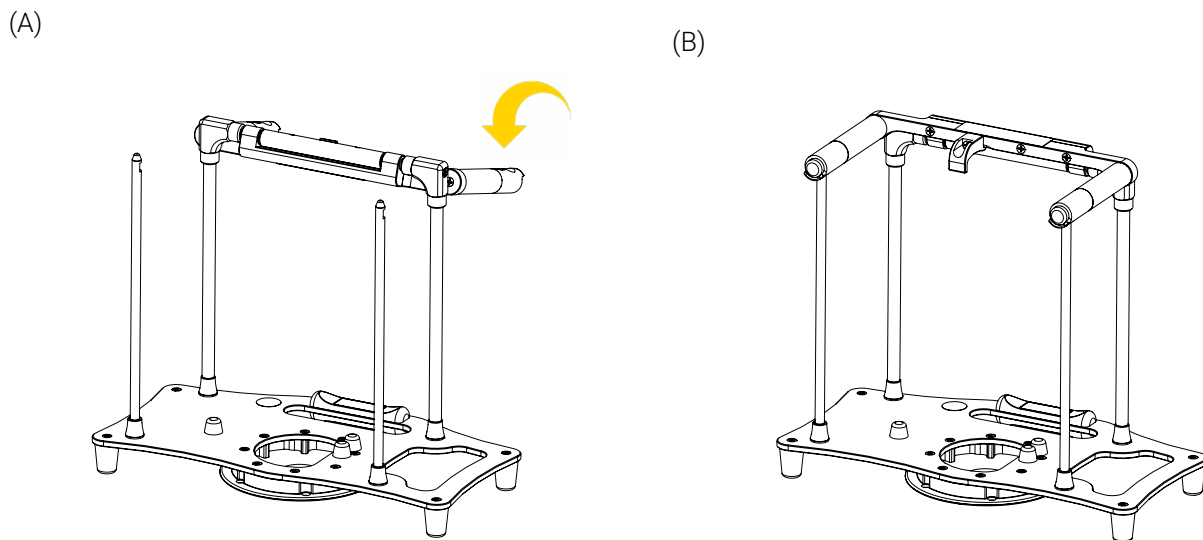

Figure 10: Closing and locking the support bracket
3. Flip the top of the support bracket over towards the back and press until the bracket is locked and secured (Figure 10).